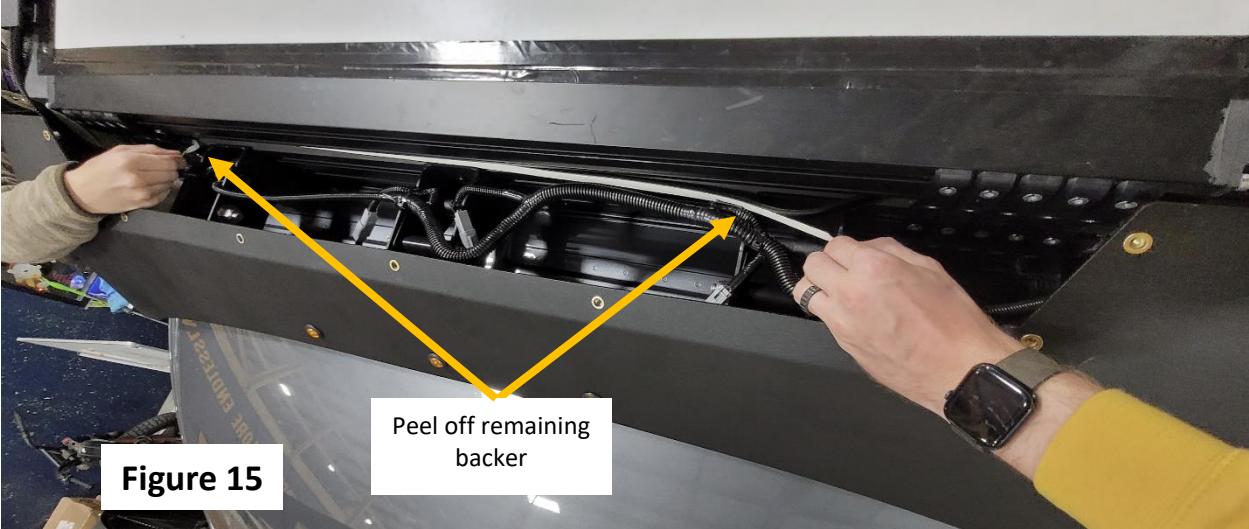

Figure 15
- i. With the adhesive backer peeled about 12 inches from both ends, center the seal along the front of the tent and peel the remaining backer off the seal. See figure 15